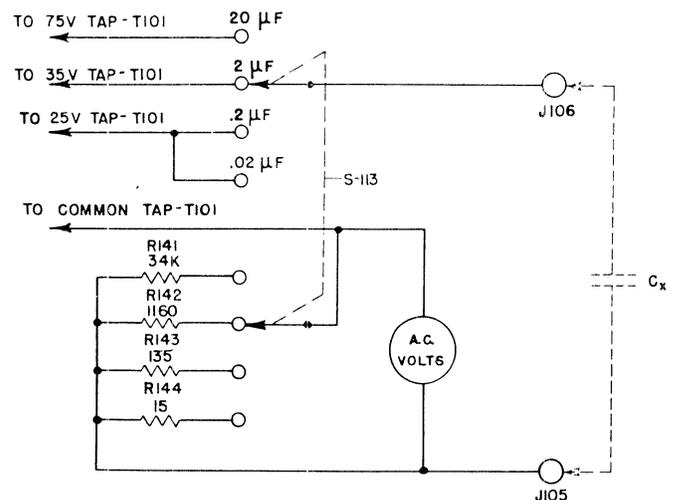

Figure 2-15. Simplified Capacity Meter Circuit
e. CAPACITY (See Figure 2-15)
- (1) With the FUNCTION selector set at CAP. the test circuit illustrated by Figure 2-15 is established.
- (2) Adjustment of the RANGE switch S-113 permits selection of the four ranges of capacity.
- (3) A standard ac voltage, determined by the setting of RANGE switch S-113, is applied across the unknown capacity  $C_x$  through one of four accurately calibrated resistors R-141, R-142, R-143 or R-144, also selected by the setting of S-113.
- (4) The voltage drop across the series resistor, R-141, R-142, R-143 or R-144, is proportional to the reactance of the capacitor under test and is measured by the meter in terms of capacity in microfarads based on a line frequency of 60 cycles.